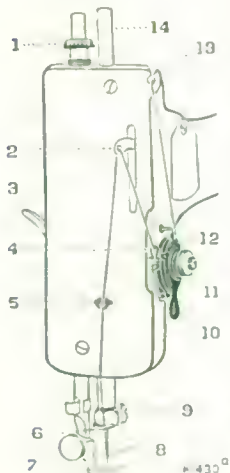
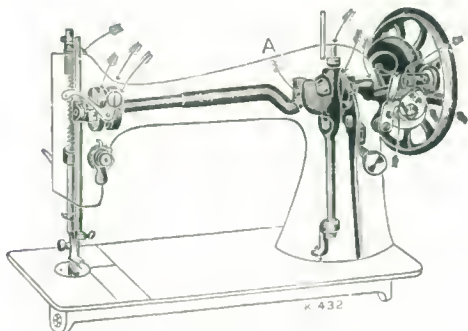

FIG. 5.
Fig. 14.
Tighten the balance wheel (see Fig. 3) and place a piece of material under the presser foot (7, Fig. 5). Then lower the latter by means of the lifter (3, Fig. 5). Now turn the handle over from you to work the machine, without its being threaded, until you are accustomed to guiding the material with the left hand.
(See Fig. 5)
Loosen the balance wheel (see Fig. 3) and push the top of the winder from you until its rubber ring (5) just touches the ledge of the balance wheel. Turn the latter over towards you until the thread guide (2) moves to the extreme right. Place a reel of thread on the spool pin and pass the end of thread through the notch at top of the face plate (13, Fig. 5); then thread the winder by passing the thread upward through the eyelet (1) and into the notch (2). Draw the knob (3) to the left, and place an empty bobbin between the cup at the right (4) and the centre hole at the left. Now clamp the end of thread between the cup and the end of the bobbin, turn the balance wheel towards you and wind by operating the machine as when sewing. When nearly full remove the bobbin by pulling the knob (3) to the left; then withdraw the winder from the ledge of the balance wheel and tighten the latter by turning the stop motion screw from you.
Raise the needle bar to its highest, lift the presser foot (7, Fig. 5), at the same time pressing the tension release (10, Fig. 5) with the thumb of the right hand. Move the material back and to the left, and sever the threads by passing them over the thread cutter above the presser foot. Leave a few inches of thread under and at the back of the presser foot.
For ordinary family sewing it is seldom necessary to change the pressure on the material. If sewing fine silk or flimsy material, lighten the pressure by giving the thumb screw (1, Fig. 5) two or three turns upwards. To increase the pressure, give the thumb screw a few turns downwards.
If used constantly, the machine should be oiled daily, while with moderate use, an occasional oiling is sufficient. A drop of oil applied at the points indicated by arrows in Figs. 14 and 15 is sufficient. The small plate in front of the machine and the larger plate at the back should both be turned up and oil applied to the parts exposed. It is important that oil be applied to point "A," Fig. 14, when the take-up lever (2, Fig. 5) is at its lowest, and a little oil rubbed over the surface of the shuttle race. There are also two holes in the hand attachment to which oil should be applied occasionally. When oiling, insert the oil can spout well into the holes.
The thread take-up spring (4, Fig. 5) is not broken.
Stitches Looping. See that the spring (4, Fig. 5) is not broken, that the upper and under tensions are equal (see page 11), that both shuttle and needle are properly threaded, that the thread is of good quality and of correct size for the needle (see table on inside of back cover).